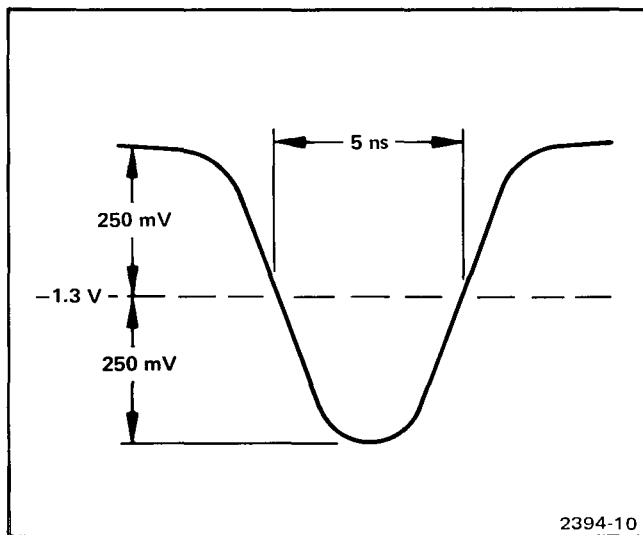

Fig. 3-6. 485 Oscilloscope display.
f. Adjust PG 502 pulse generator Output (volts) Hi-Low Level for  $\pm 250$  mV from a threshold voltage of  $-1.3$  V as displayed on the 485 Oscilloscope. (See Fig. 3-6.)
g. Adjust PG 502 pulse Generator Pulse Duration Variable control for a 5 ns pulse width at the  $-1.3$  V (threshold voltage) level as displayed on 485 Oscilloscope. (See Fig. 3-6.)
*Throughout the above procedure maintain the correct display (as shown in Fig. 3-6) on the 485 Oscilloscope.*